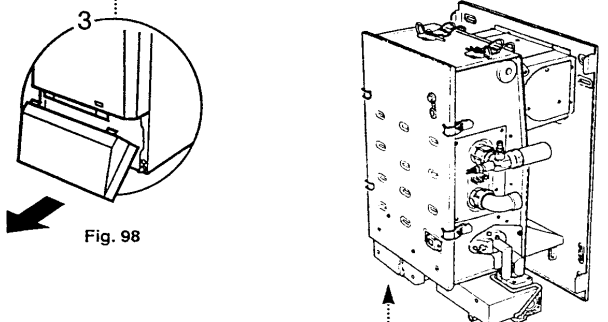

Fig. 98
3. Remove the outer case lower door panel (Fig. 98).